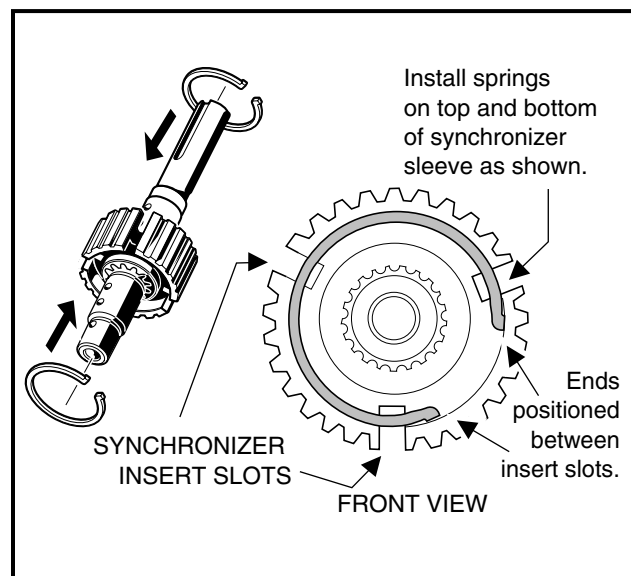

Figure 5-27 Synchronizer Springs
- 1.2. Install the synchronizer springs (46) (**Figure 5-11, Page 5-7**) in the sleeve (**Figure 5-27, Page 5-15**). See following **NOTE**.
- NOTE:** Make sure the ends of the springs are positioned between the synchronizer insert slots (**Figure 5-27, Page 5-15**).
- 2.2. Install the synchronizer springs (46) (**Figure 5-12, Page 5-8**) in the sleeve (**Figure 5-27, Page 5-15**). **See following NOTE.**
NOTE: Make sure the ends of the springs are positioned between the synchronizer insert slots (**Figure 5-27, Page 5-15**).